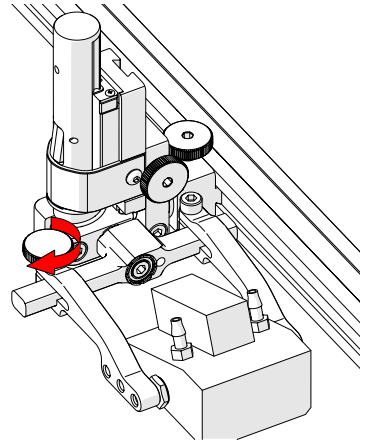

Fig. 64 - Tighten arm knob
6. Tighten the probe holder arm adjustment knob (Fig. 64).